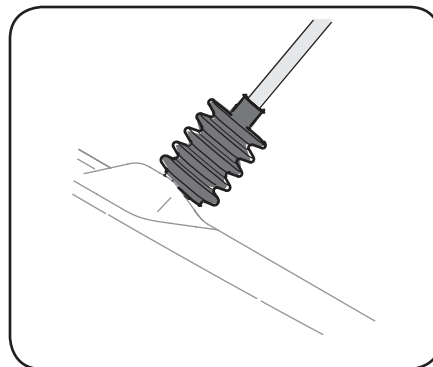

Figure 2-14
6. Slide the rubber bellow over the universal joint. See Figure 2-14.